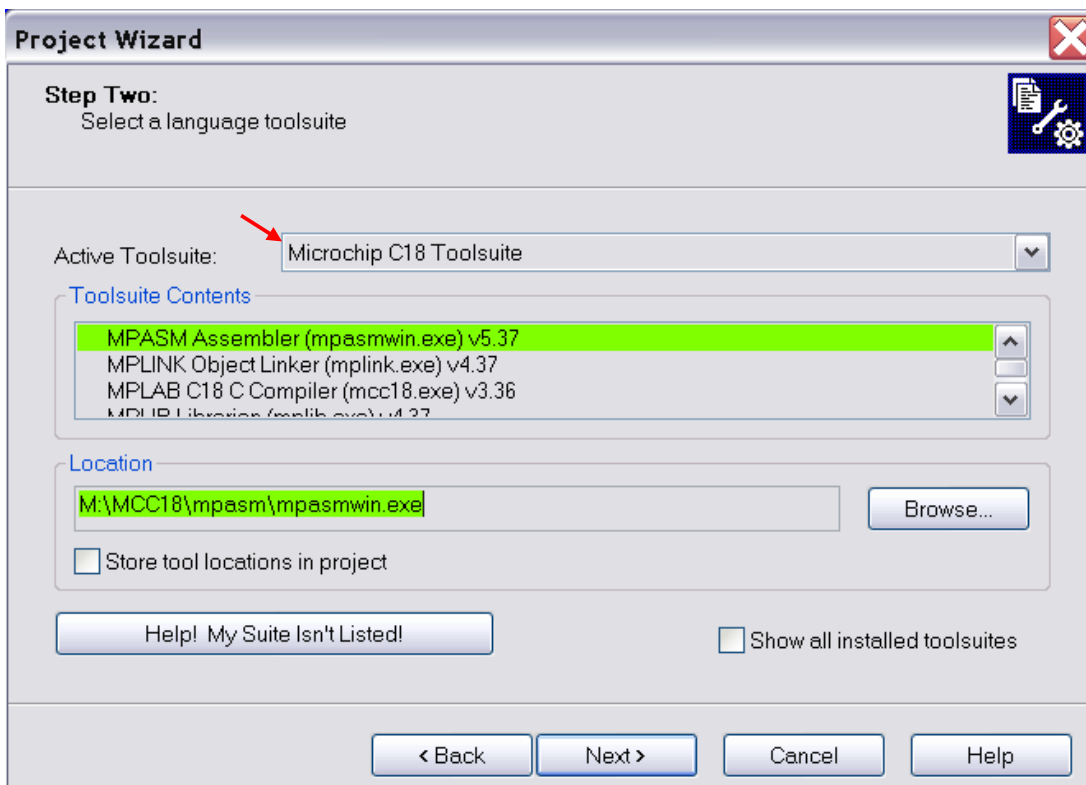

Figure 3: Change the active toolset to CCS C Computer.
6. Change the *active toolset* to use to Microchip C18 Toolsuite. See Figure 3 below. Click next to continue.